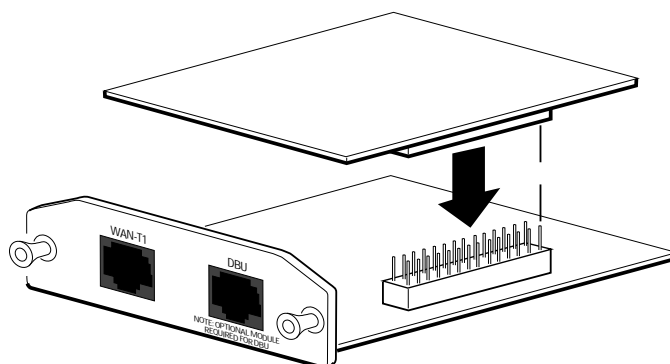

Figure 18. Installing DIMs
3.	Carefully align the P1 connector on the NIM with the J1 connector on the DIM. Using only fingertip pressure so that neither circuit board bends or flexes, ensure that the connectors are firmly seated. Secure the DIM to the NIM using the screws and standoff posts supplied. See Figure 18.